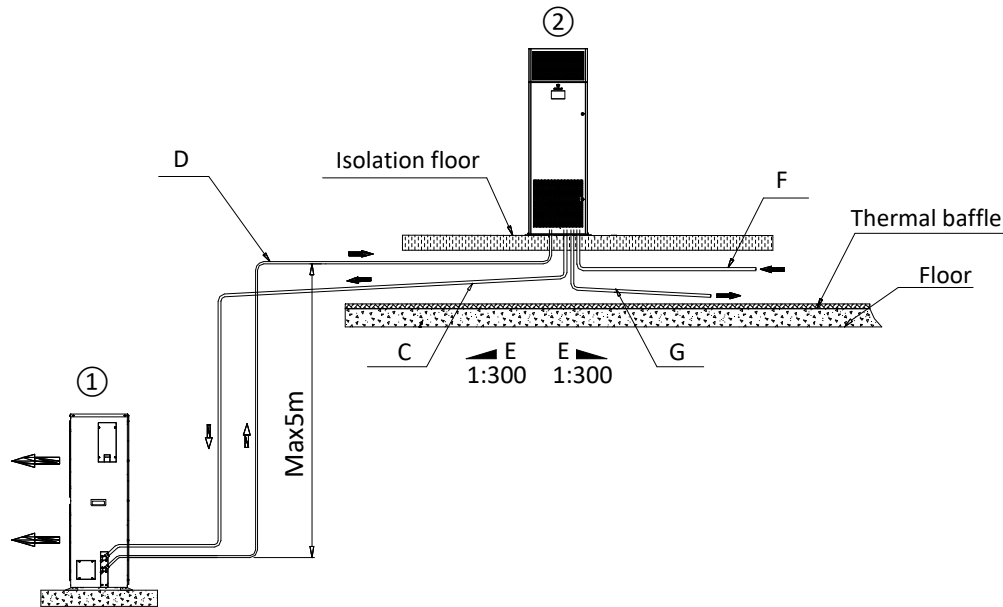

Figure 6-3 Requirements on the Installation of the Outdoor Unit of the Air Conditioner
2) Determine the installation position of the outdoor unit on site, and place the outdoor unit on the pedestal (or tripod). Refer to Figure 6-3 for the distance between the air inlet and outlet side of the outdoor unit and the wall and other obstructions.